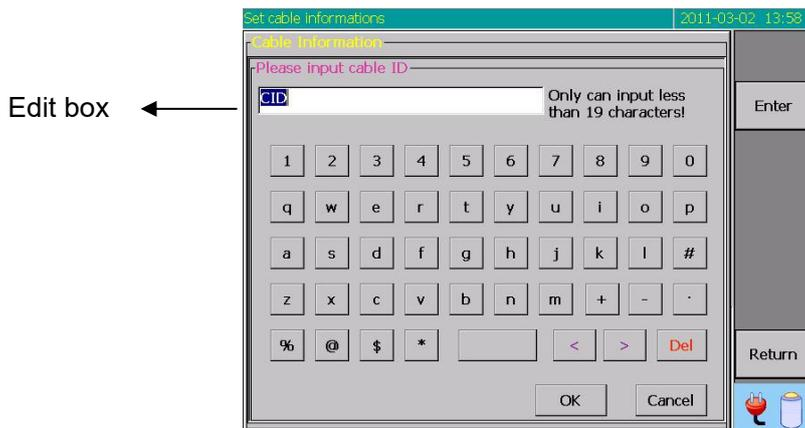

Figure 8-41 Input window of fiber information
- When the active cursor locates at the fiber type and data status, press / to change the setup of this item; when the active cursor locates at other setup items, press / to display the input window as shown in Figure 8-41.